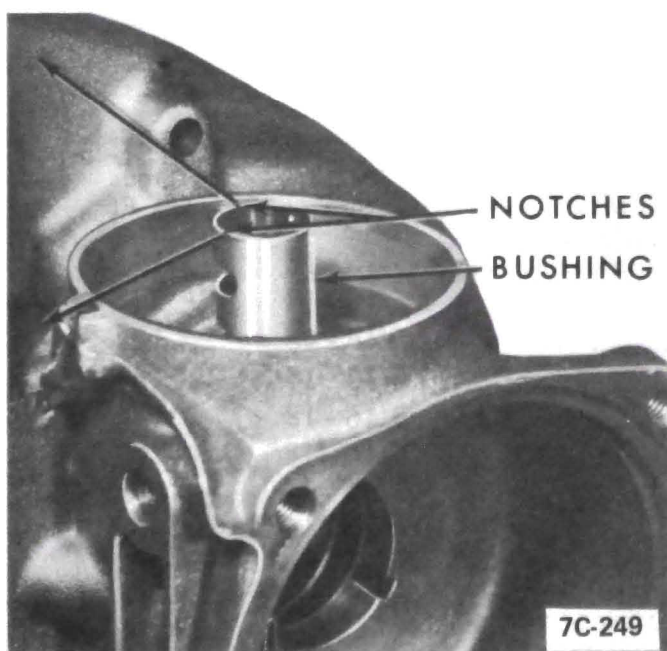

Figure 7C-199
a. Note the two (2) notches at one end of the bushing.
b. Position the notches so that one notch is toward the front of the case and the other is toward the bottom of the case. See Figure 7C-199.
c. Use J-22976-3 alignment arbor and bushing installer to drive the bushing into the case. See Figure 7C-200. A brass hammer should be used to strike the hardened steel bushing installer tool.